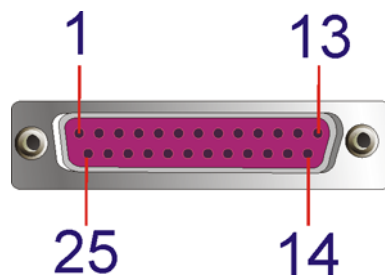

Figure 4-24: Parallel Port Connector Pinout Locations
- CN Pinouts:** See **Figure 4-24** and **Table 4-24**